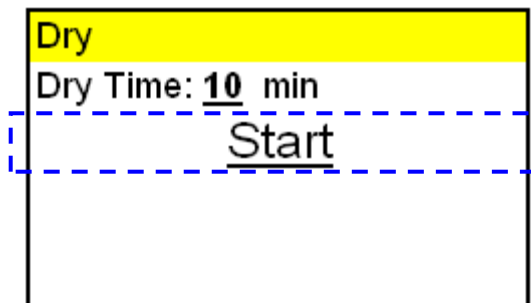
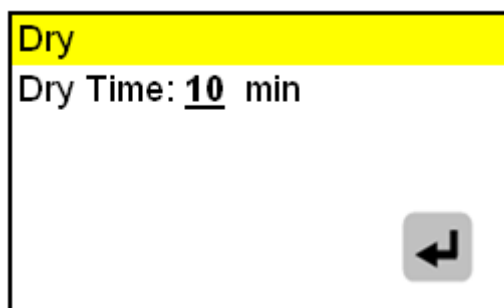

Figure 56
Figure 57
- E. Press  or  button to move the cursor to the “Start” (Figure 56), change the dry time, and then press  button to confirm dry time, as shown in Figure 57.